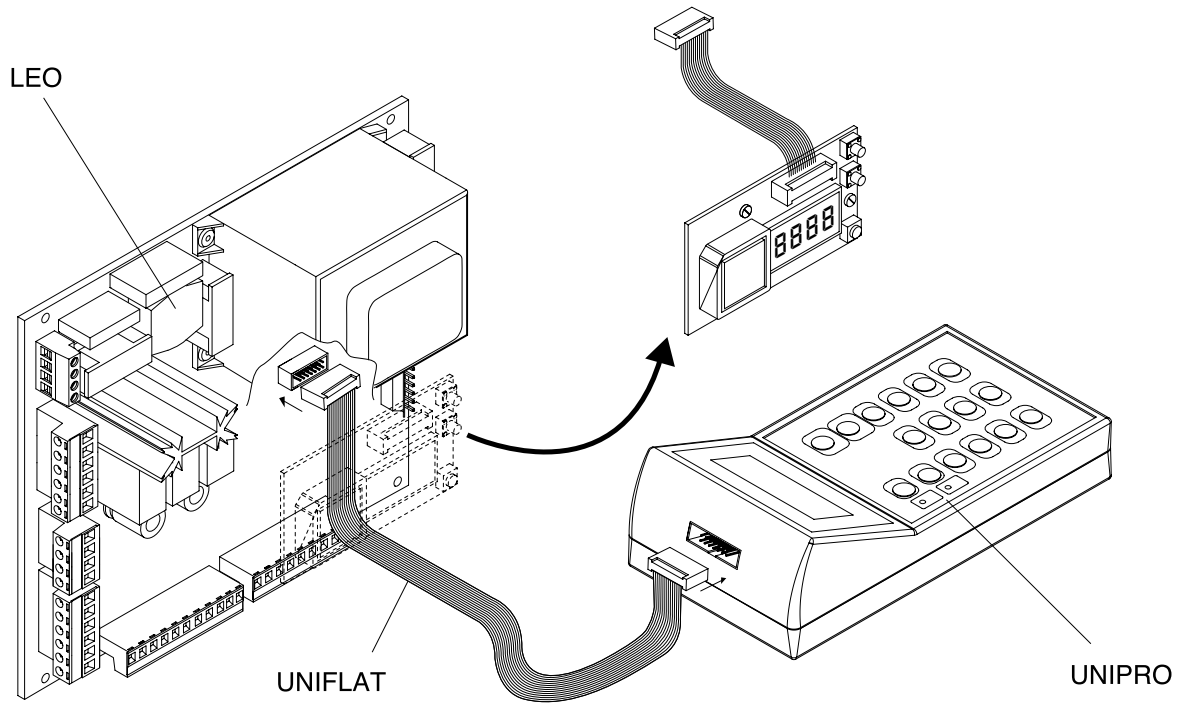

Fig. 5
ON In the case of a closed loop centralised connection (Fig.5), set the control unit to ON.
OFF In the case of an open centralised connection (Fig.5), set the control unit to OFF.
7) SERIAL CONNECTION (Fig.5)
Following the diagram in Fig. 5, proceed to connecting all the LEO control panels, exclusively using a telephone-type line.
Loop closing of the serial connection (indicated by a dotted line in Fig.5) is only needed if you require to check the no. of the connected devices by means of UNIPRO.